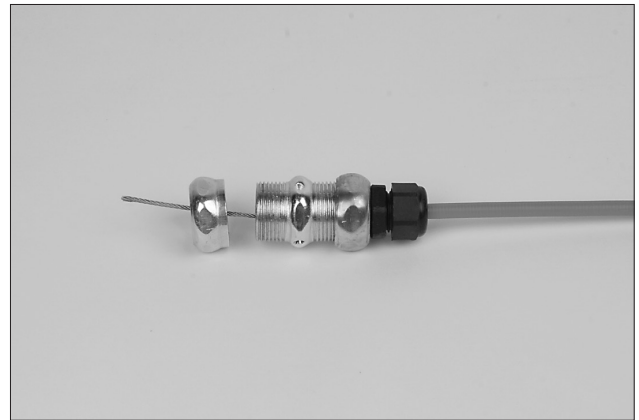

FIGURE 4-73
6. Starting on the opposite end of the compression union, remove the nut. See Figure 4-73.